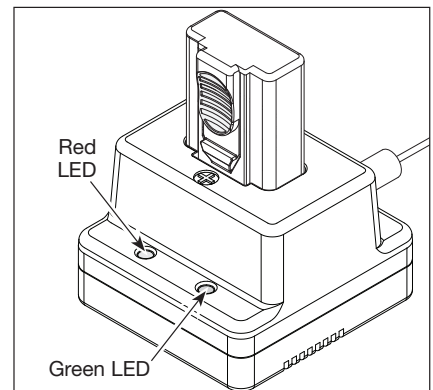

Figure 3
4. Charging will begin as soon as the charger and adaptor are connected (see Figure 3). The green LED light on the charger will turn on continuous to indicate charging has begun. If the LED light does not turn on, remove battery and reinsert battery back into charger base. The battery is fully charged when the green LED on the charger base is flashing. Once the battery is fully charged, remove the battery from charger. **DO NOT** leave it on continuous charge to avoid possible damage to the battery.